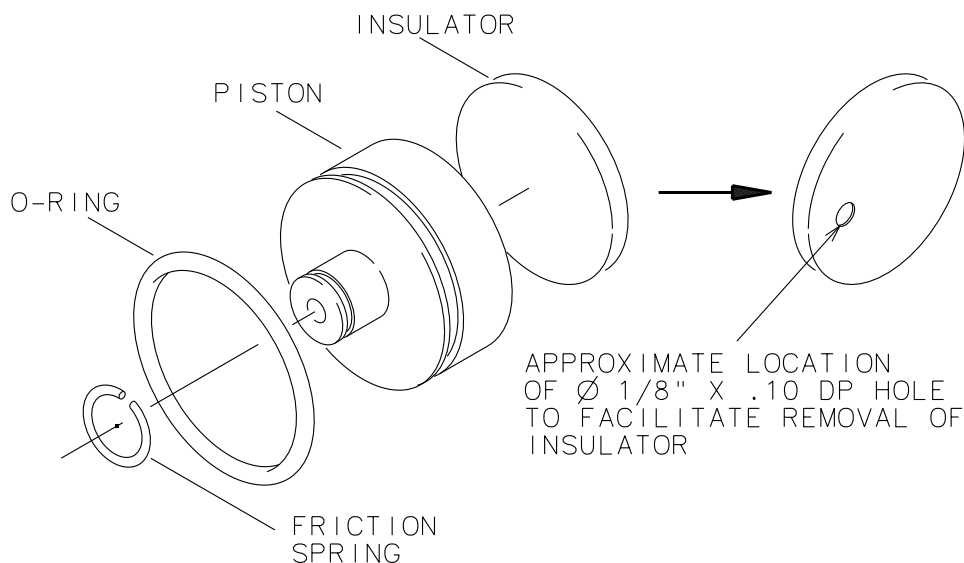

Figure 301 - External Piston Guide
- (a) Separate assembled cylinder (1) and torque plate (16). Brake assemblies that use metallic lining will also incorporate a thermal insulator shim (18) located between the back plate (4) and cylinder (1), and piston insulator (17), pressed into piston pocket, isolating piston (7), and pressure plate (5).
- (b) Remove back plate attachment bolts (2) and washers (3). Separate cylinder (1) and back plate (4).
- (c) Remove pressure plate (5) by sliding over anchor pins (14).
- (f) Remove pistons (7) by injecting air into the ports (15 to 20 psi) [103 to 138 kPa] maximum pressure.
**NOTE:** Some pistons are equipped with a friction spring (drag ring) on the piston tail. It is recommended that this ring not be removed unless it is damaged or corroded. Ref. Figure 301.